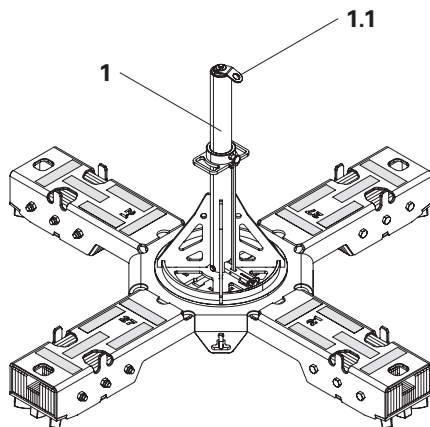
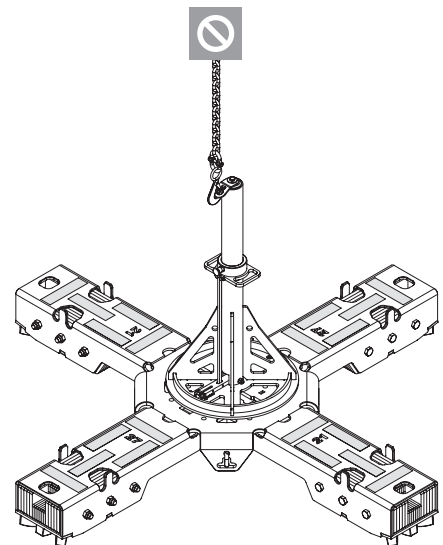

Fig. B4.02
Fig. B4.03
- For fall prevention, only ever use the anchor point (1.1) on the SKY Anchor (1). (Fig. B4.02) Do not use the anchor point (1.1) for lifting operations! (Fig. B4.03)